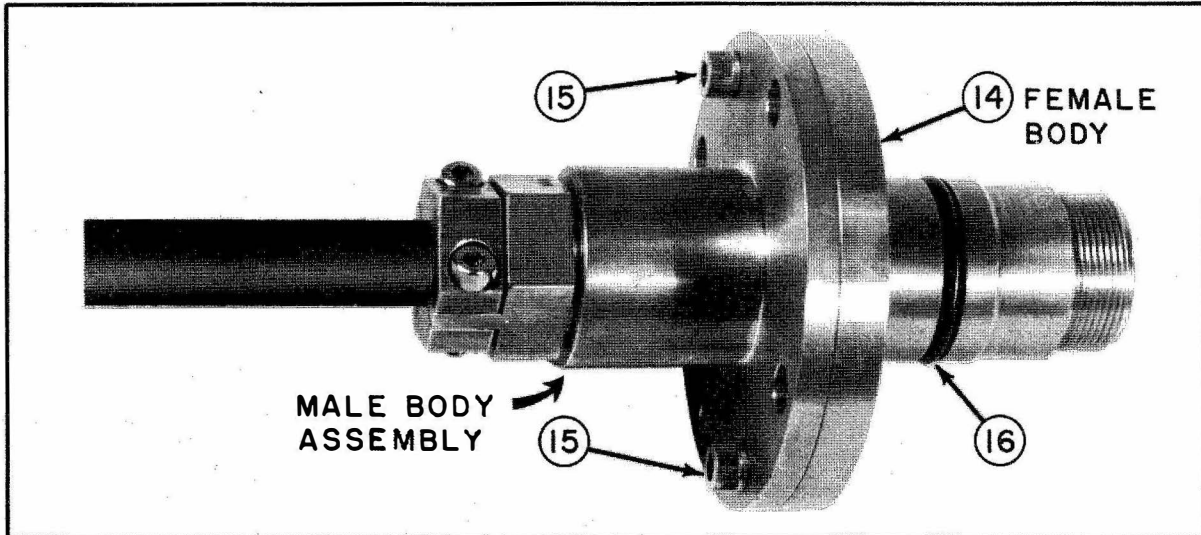

Figure 5-11f. UG-1363/U. Completed Assembly
Step 7. - Align the locating pin on male contact insulator in the male body assembly with the slot in female body, piece 14, and push them until the two flanges come together. Install the two 1/4-20 x 5/8 inch socket head screws, piece 15, and tighten with an Allen wrench. Lubricate O-ring, piece 16, with insulating compound and install it in the outside groove on the female body. The four socket head screws, piece 17, are used to secure the connector in the case of the AT-317/BRR or AT-317A/BRR type antennas (see figure 5-11f.)